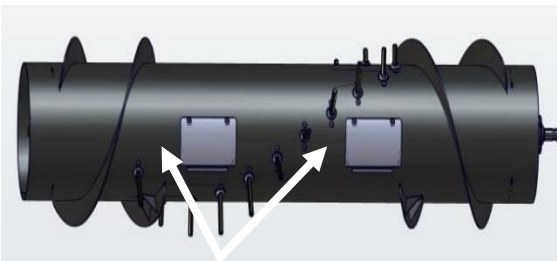

Figure 34
10. The lifting straps can be installed through the access panels in the auger as shown in Figure 34.
12. The auger cross shaft can be removed. To gain access to the shaft remove all the covers on the auger tube. Figure 34